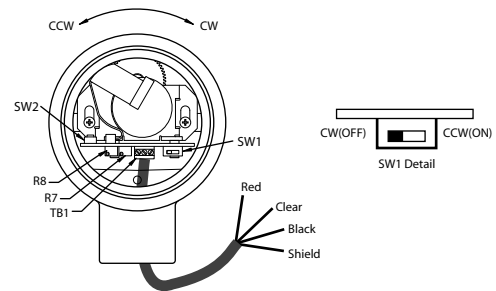

Figure 4:
- See Figure 4 below for related information.
This provides access to the edge of the SG1000D's printed circuit board, namely the direction switch SW1 (the slide switch), and the calibration switch SW2 (the push-button switch). See Figure 4 for locations of these switches.
- If the encoder shaft turns in the CW direction as the valve is moved from the fully-closed to the fully-open position, then set SW1 to the OFF position (i.e., toward the center of the PC board). See Figure 4.
- If the encoder shaft turns in the CCW direction as the valve is moved from the fully-closed to the fully-open position, then set SW1 to the ON position (i.e., toward the edge of the PC board). See Figure 4.
- D) Assuming conditions (A), (B), and (C) are proper, and your SG1000D still seems to behave improperly, then try re-calibrating again, paying close attention to the eight calibration steps.
- 2) If you have gone through troubleshooting hints (1A), (1B), (1C), and (1D), and if your SG1000D seems to otherwise respond properly, from fully-closed to fully-open, with the only exception being that strange values other than 4 mA and 20 mA are output for the fully-closed/fully-open positions (e.g., 3 mA at one-end and 23 mA at the other-end), then possibly the R7 and R8 factory potentiometer settings have been tampered with. See Figure 4 for location of these pots.